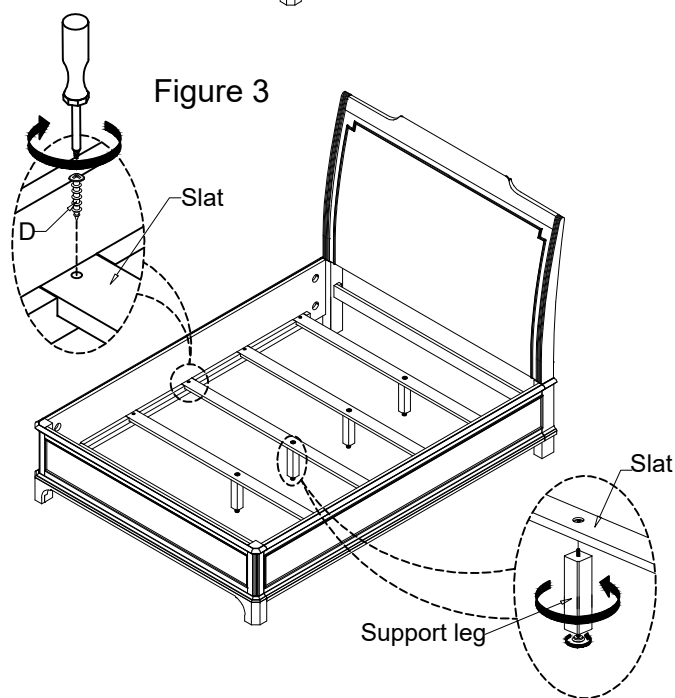

Figure 2
4. Insert Bolt on each Support Leg into pre-drilled holes in center of Slat, tighten by turning the Support Legs in clockwise. (See Figure 2).